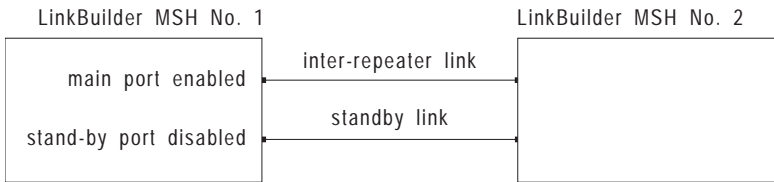

Figure 3-2 Resilient links
- Resilient links can be set up. See Figure 3-2 below. A resilient link consists of a *main port* and a *stand-by port* which are both set up locally via the display panel or remotely via a Network Manager. The main port is the normally operational port; however, if a fault occurs on the link and data cannot be passed over it, the stand-by port will automatically take over. .